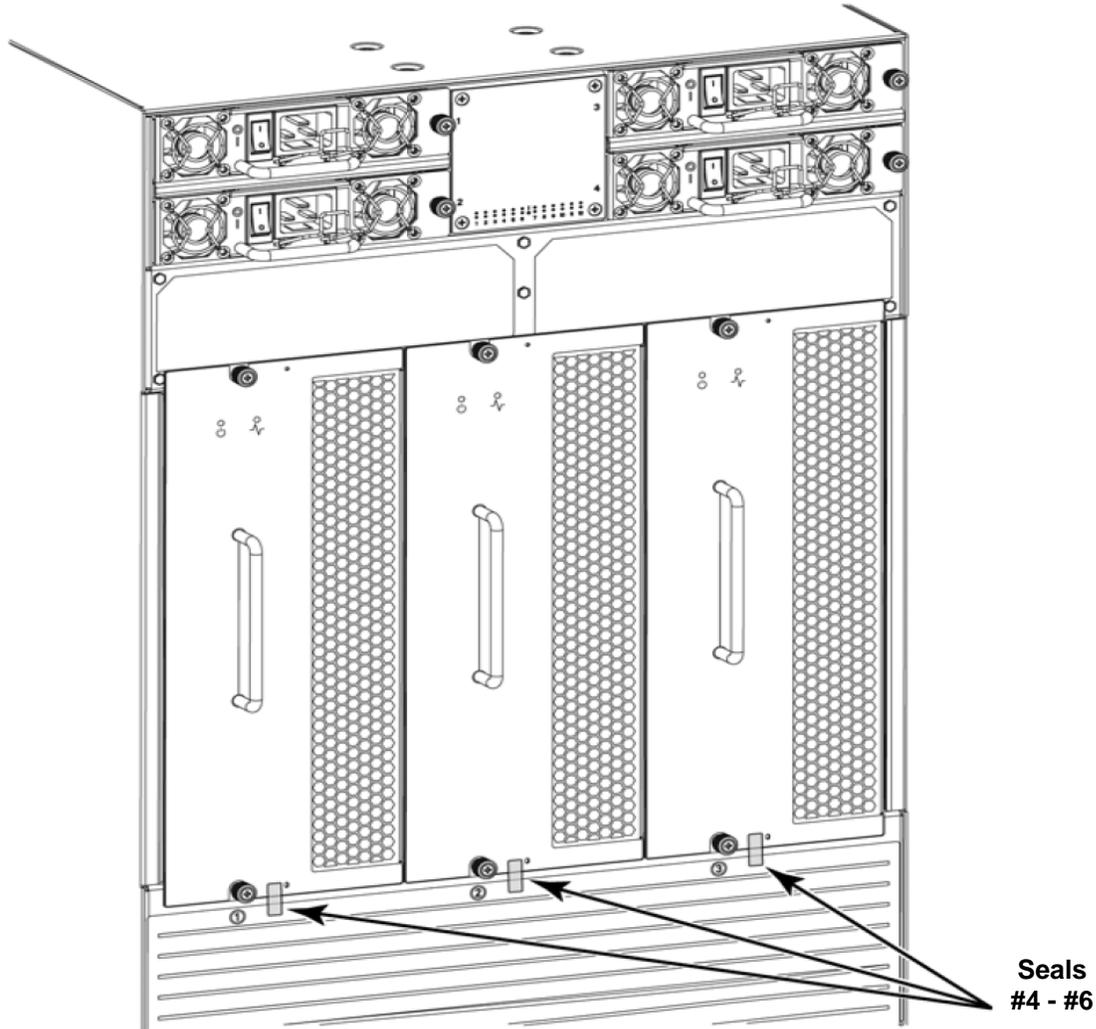

**Figure A.1 – Brocade DCX Chassis Right Side Seal Location**
Figure A.1 below illustrates seal placement for the right side of the DCX Chassis
Locate the three (3) screws on the right side of the chassis enclosure specified in Figure A.1. Attach one (1) seal (#1 - #3) that covers each screw head completely. Ensure that the seal is firmly affixed.